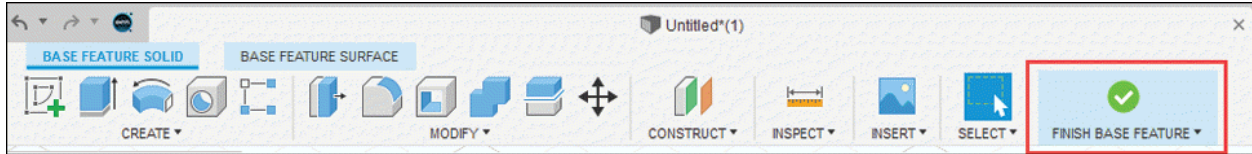

Figure-126. Finish Base Feature button
- Do desired operation that you do not want to record in **Timeline** and then click on **FINISH BASE FEATURE** button from **Toolbar** to exit the mode; refer to Figure-126.